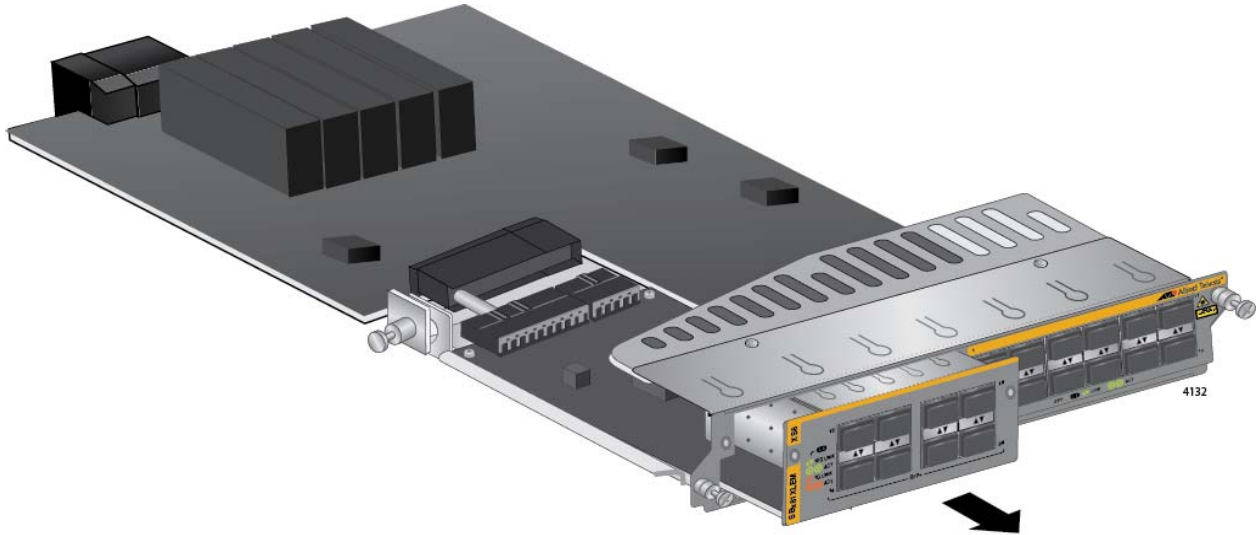

Figure 184. Sliding the Expansion Module from the AT-SBx81XLEM Line Card
6. Slide the expansion module from the line card. Refer to Figure 184 on page 289.